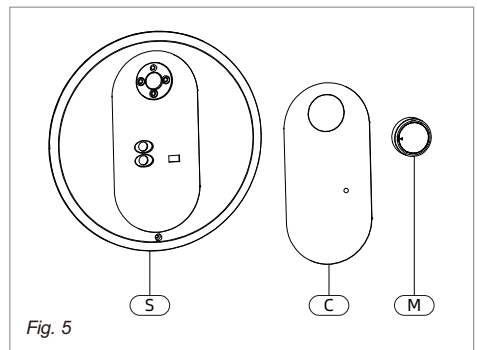

Fig. 5
The temperature of the hot water is adjusted by rotating the knob M (Fig.5) located on the front cover. Temperature range is 55-145 °F.
- Remove rubber seal which covers the Phillips screw(Fig. 5 [S]), and unscrew the Phillips screw.
- The cover (Fig. 5, [C]) can now be removed by slightly rotate. When reassembling, work in the opposite way being careful to insert the tongue of the cover into the slot.